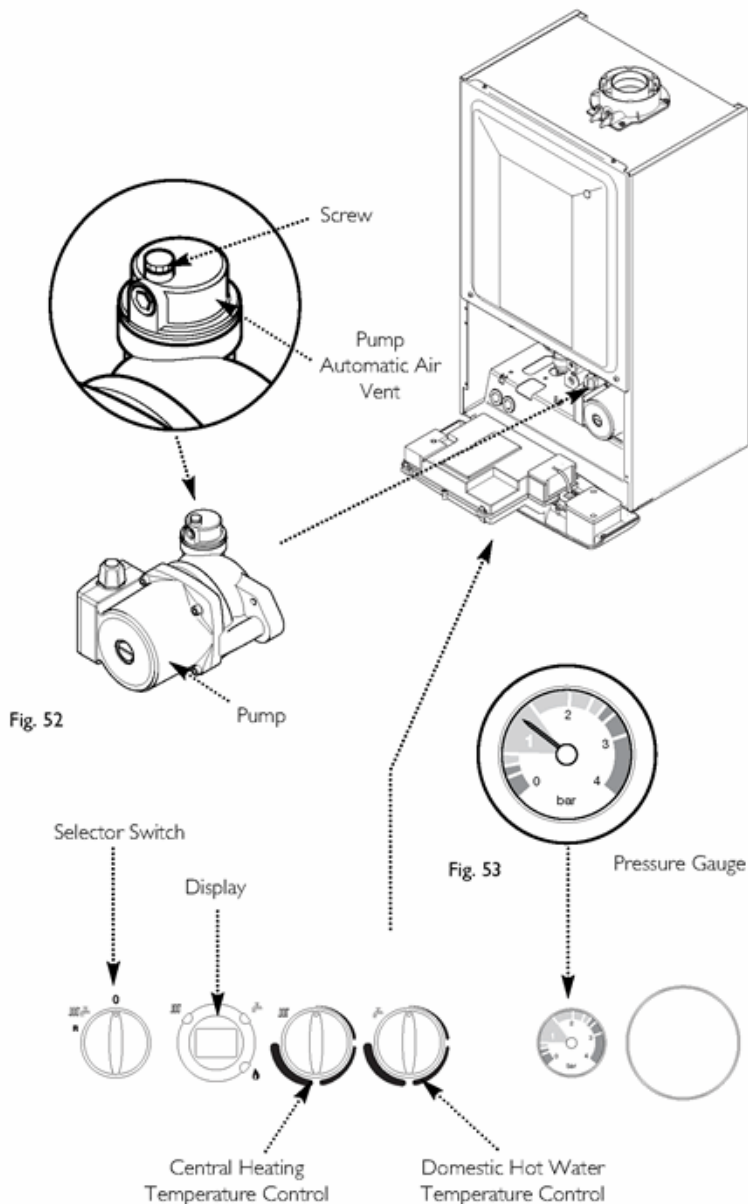

Fig. 52, Fig. 53 and Fig. 54
6. Open the screw on the automatic air vent on the pump body (Fig. 52).